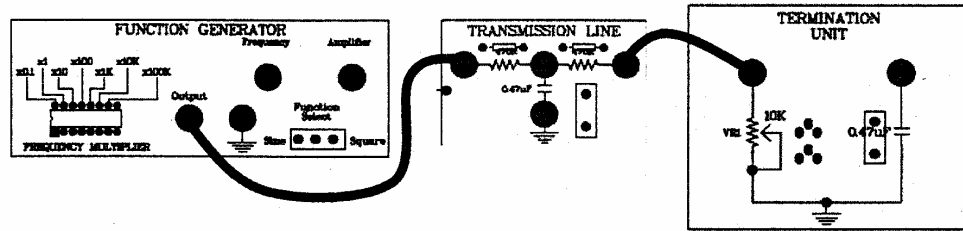

Figure 2: Wiring diagram of the transmission line trainer
4. Patch the circuit as shown in wiring diagram of Figure 2.